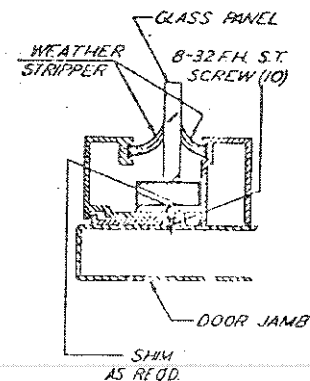

FIG. 9 Transom Glass Stop installation details.
1. If a transom is included in the door frame, install the glass stop frames as shown in FIG. 9. Use 8-32 flat head self threading screws, for which holes are provided in the glass stop frames.
2. The glass stop frames are constructed of snap-in tongue and groove arrangements shown in FIG. 9. Remove each of the tongue portions and install the glass panels. Replace the tongue portions. The weather stripping, shown in FIG. 9, must be flush up against the glass.